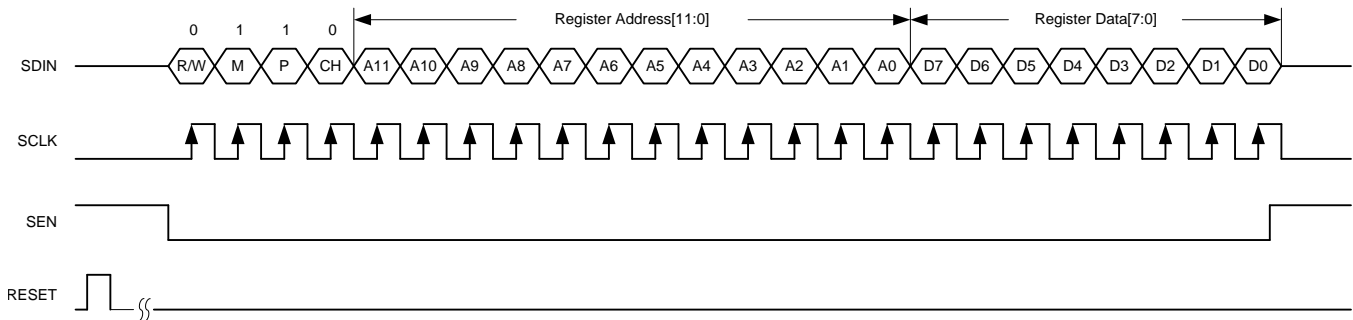

Figure 70. JESD Serial Register Write Timing Diagram
3. Set the M and P bits to 1, select channel A (CH = 0) or channel B (CH = 1), and write the register content as shown in Figure 70. When a page is selected, multiple writes into the same page can be done.